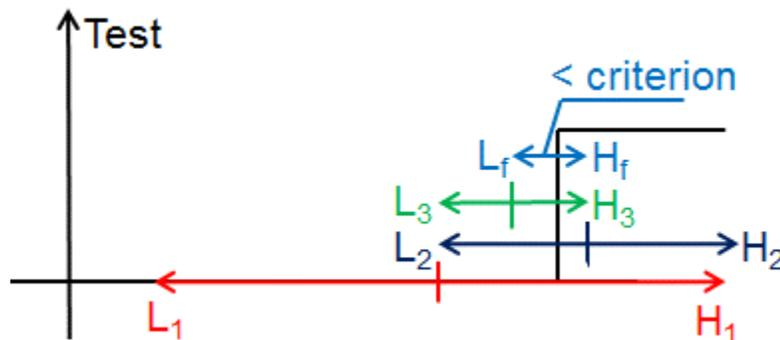

Figure 1: Bisection principle. L stand for Low-limit and H for High-limit. 1, 2 and 3 are the subinterval numbers and f the index of the last iteration.
- **Bisection.** The Bisection is an efficient method to identify the value of a parameter which is a limit for a certain condition. The script repeatedly bisects an interval and then selects a subinterval in which the condition appears (see Figure 1). The condition is connected to the input Test of the device. It is true if a value larger than 0 is input for at least 1 time-step during the simulation, else it is false. If there is no change in the input Test between the interval limits, 'Out of the interval' is written in the Note attribute.
When the convergence is based on the parameter interval size, the bisection stops when the interval is smaller than the convergence criterion (see Figure 1). If the convergence is based on the values taken by the input pin Test during the simulation, the bisection stops when the absolute values of the input pin during the whole simulation remain below the convergence criterion.
For Bisection, this is the convergence criterion. The script repeatedly bisects an interval and then selects a subinterval in which the condition appears (see Figure 1). There is convergence when the length of a subinterval is smaller than **Criterion**.
- If the convergence criterion is applied on Parameter interval size, the bisection stops when the difference between the high and the low values of the varied parameter is below the convergence criterion. This method is illustrated in Figure 1.